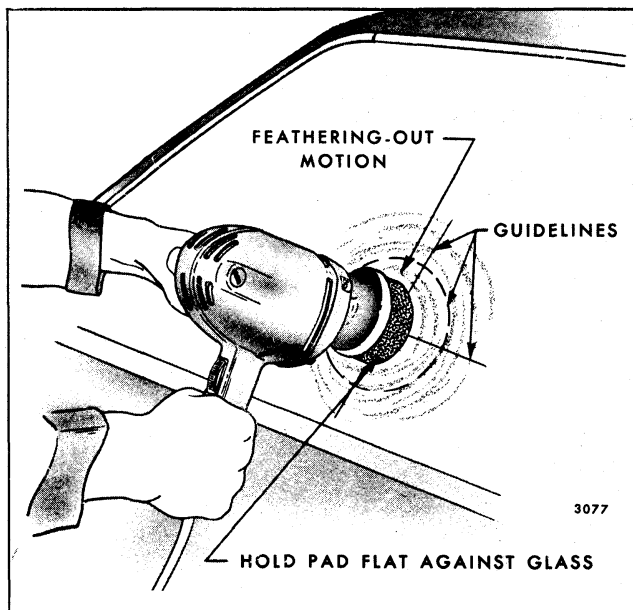

Fig. 11-1-Minor Glass Scratch Removal
3. Draw circle around scratches on opposite side of glass with marking crayon or equivalent. Draw other lines directly behind scratches to serve as guides in locating scratch during polishing (Fig. 11-1).
flat against scratched area of glass, and with a feathering-out motion, polish affected area as shown in Figure 11-1.
7. Cover sufficient area around scratch with a feathering-out motion as shown in Figure 11-1, to eliminate any possibility of a "bull's-eye".